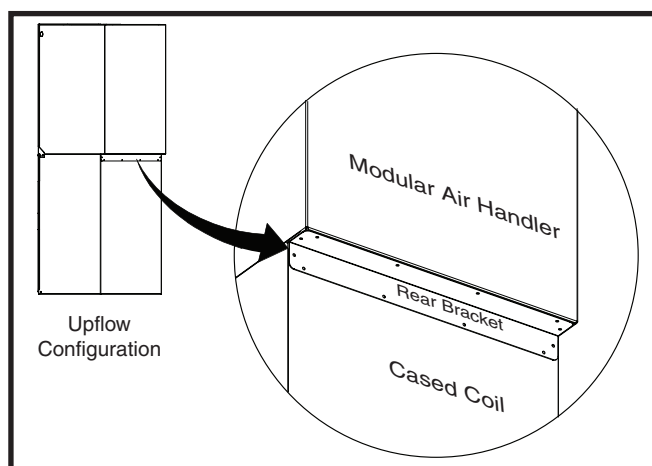

Figure 2. Rear Bracket Installation - (Upflow Only)
2. Carefully place the modular air handler on top of the cased coil making sure not to damage the cased coil flanges. The units will be flush in front with an overhang in the back as shown in Figure 2 \(page 6\).